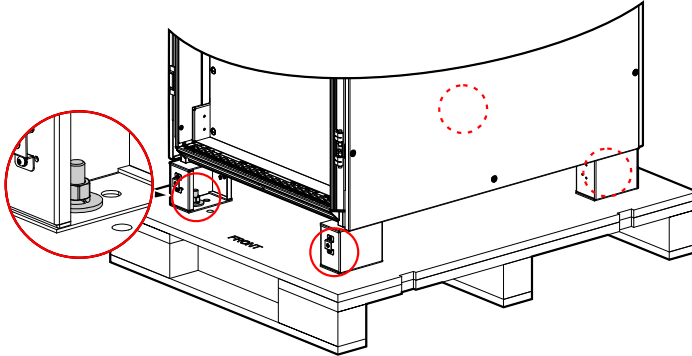

Figure3-5 Bolt position
Step 5 Unscrew the bolts that connected UPS with wooden bracket by socket wrench, the bolt position is as shown in Figure3-5.